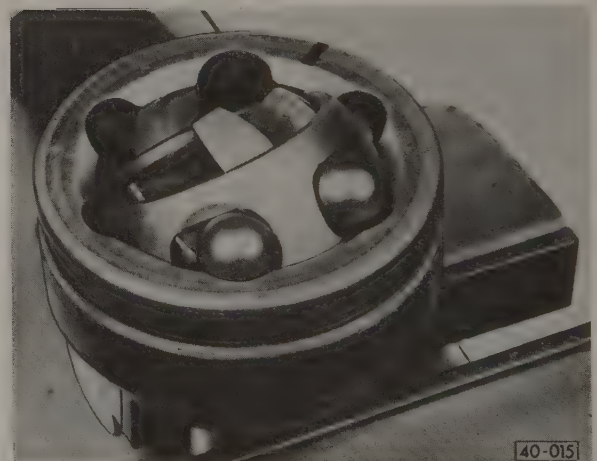

Fig. 5-12. Hub and cage of outer CV joint swivelled for removal of balls. Notice mark on outer housing. Similar marks should be made on hub and cage.
2. Swivel the cage and hub as shown in Fig. 5-12 to remove the balls one at a time. Keep track of the removed balls so that they can be reinstalled in the same relationship to each other and to the marked hub and cage.